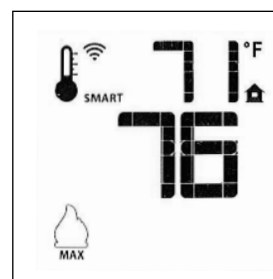

Figure 16.16. Smart Mode
- To activate this function, press the Thermostat Key until the word “SMART” appears to the right of the thermometer bulb icon. Fig. 16.16.